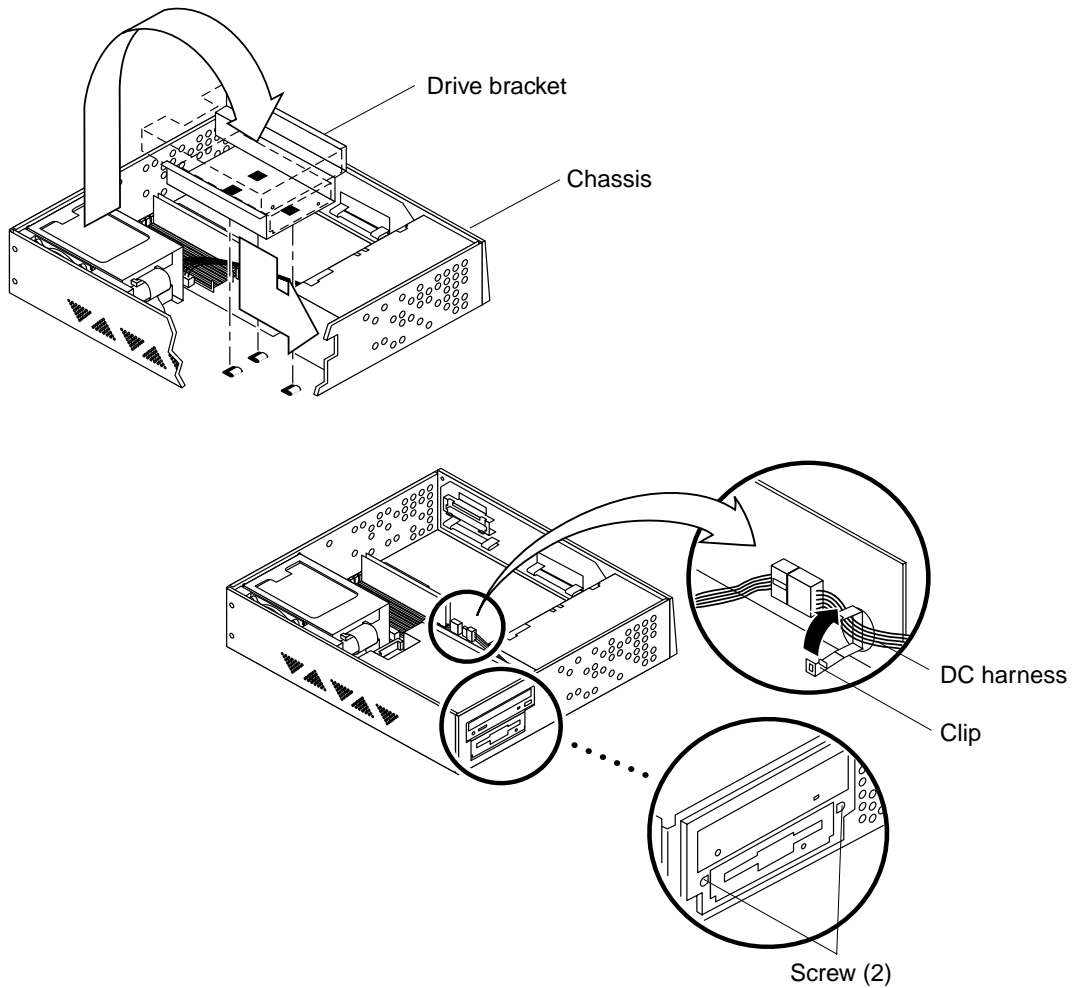

FIGURE 8-21 Replacing the Drive Bracket
3. **Position and secure the drive bracket as follows (FIGURE 8-21):**